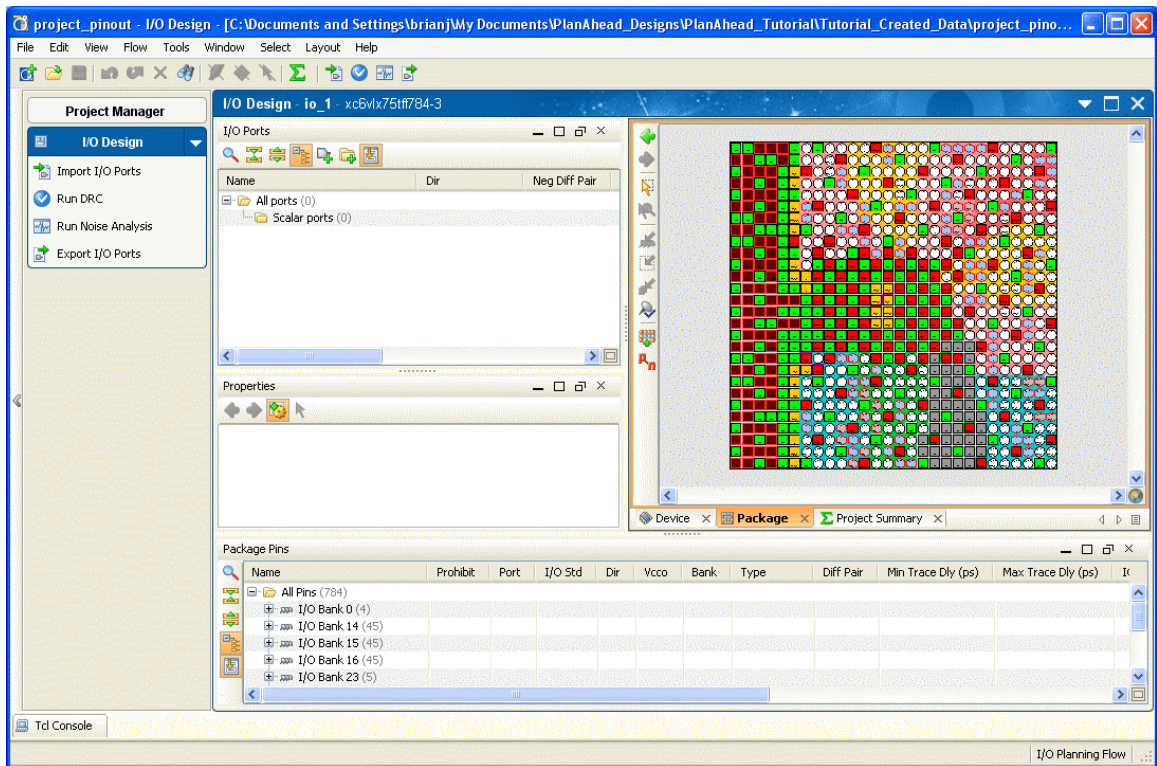

Figure 5: I/O Planner Environment
- 1-1-14. Click **Finish** to create the project as shown in Figure 5.